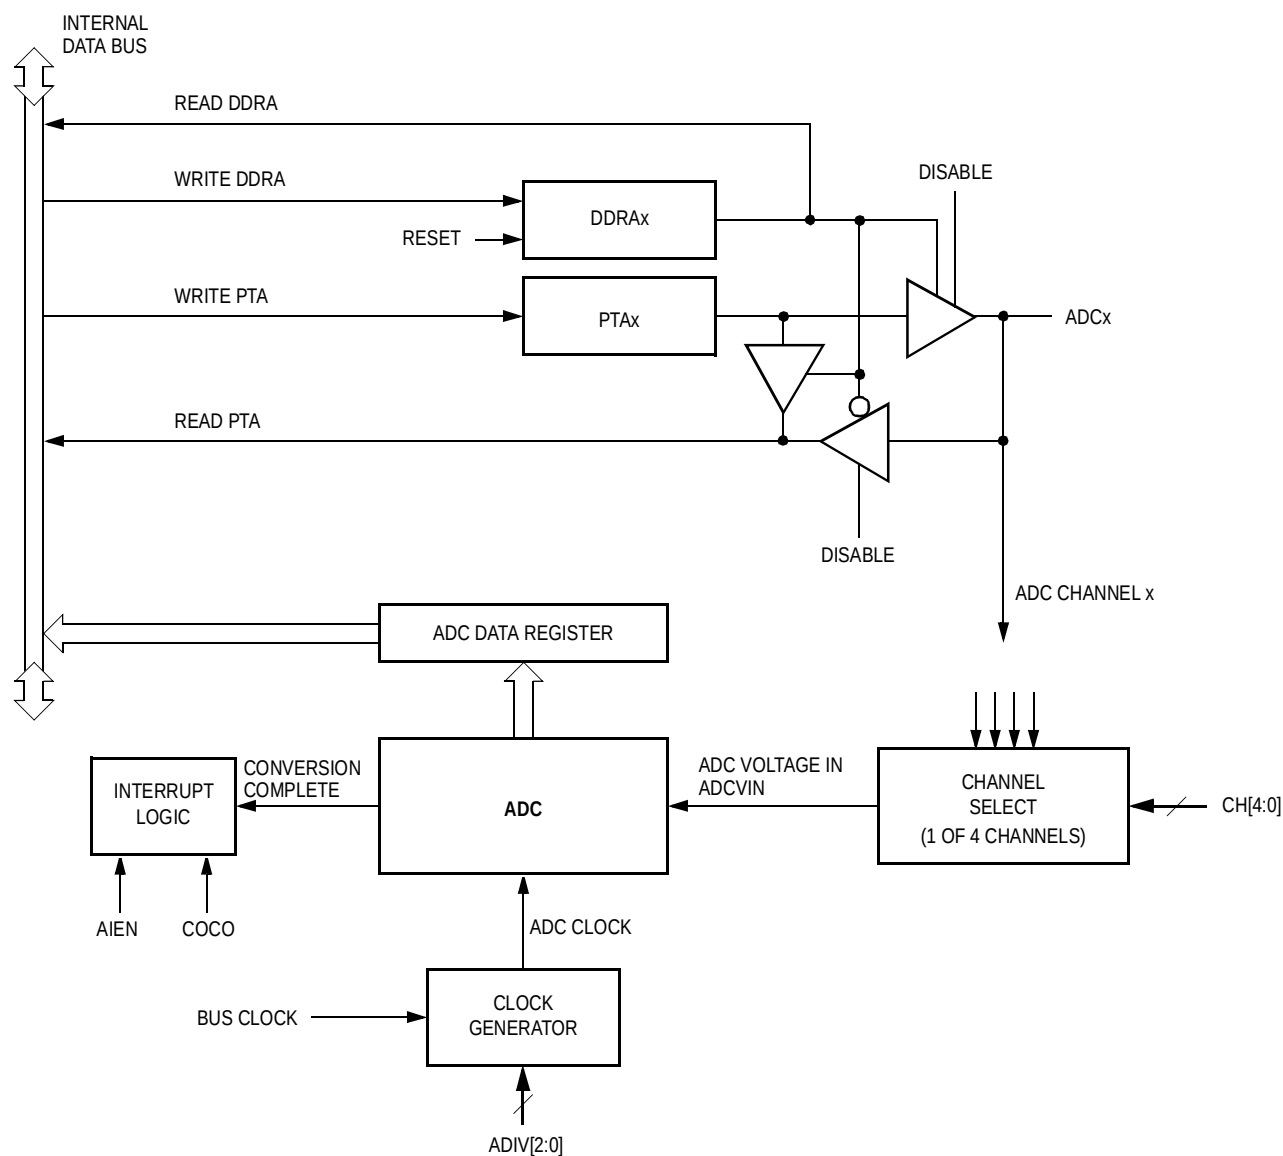

**Figure 11-2. ADC Block Diagram**
**Figure 11-2** shows a block diagram of the ADC.